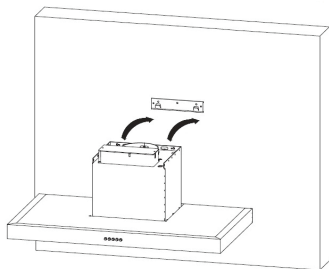

Fig. 7
7. After the hood has been hung, install the flexible outlet duct to the outlet opening (Fig. 7). Use a reducer fitting 150/120 mm in diameter, if required. Insert the second part of the flexible duct in the opening prepared in the wall.